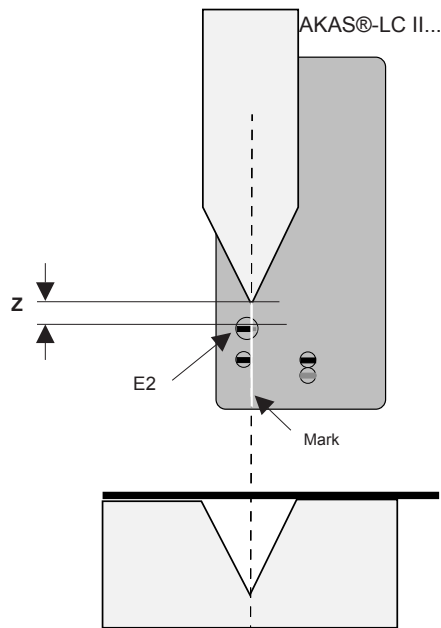

fig.13/1
* For tolerating undulating sheet metal of 2mm tolerance. Fig.13/2